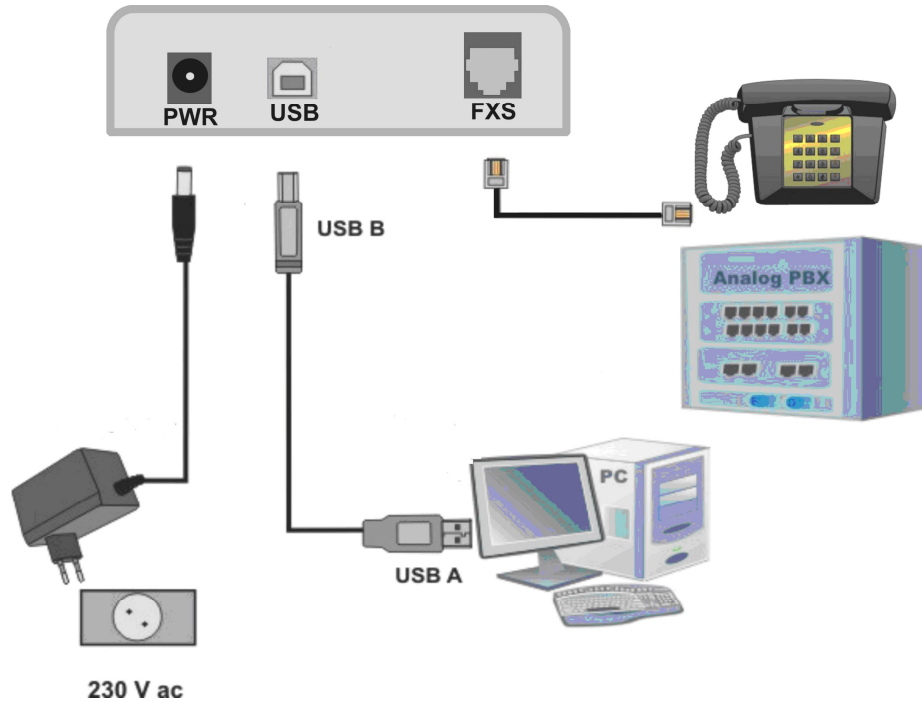

Figure 3.: Connecting the cables
- ☞ Connect the USB-B connector (male) to USB connector (female) of MobiLink GSM, and the other end of cable to the USB-A port of a PC, see the figure 3.